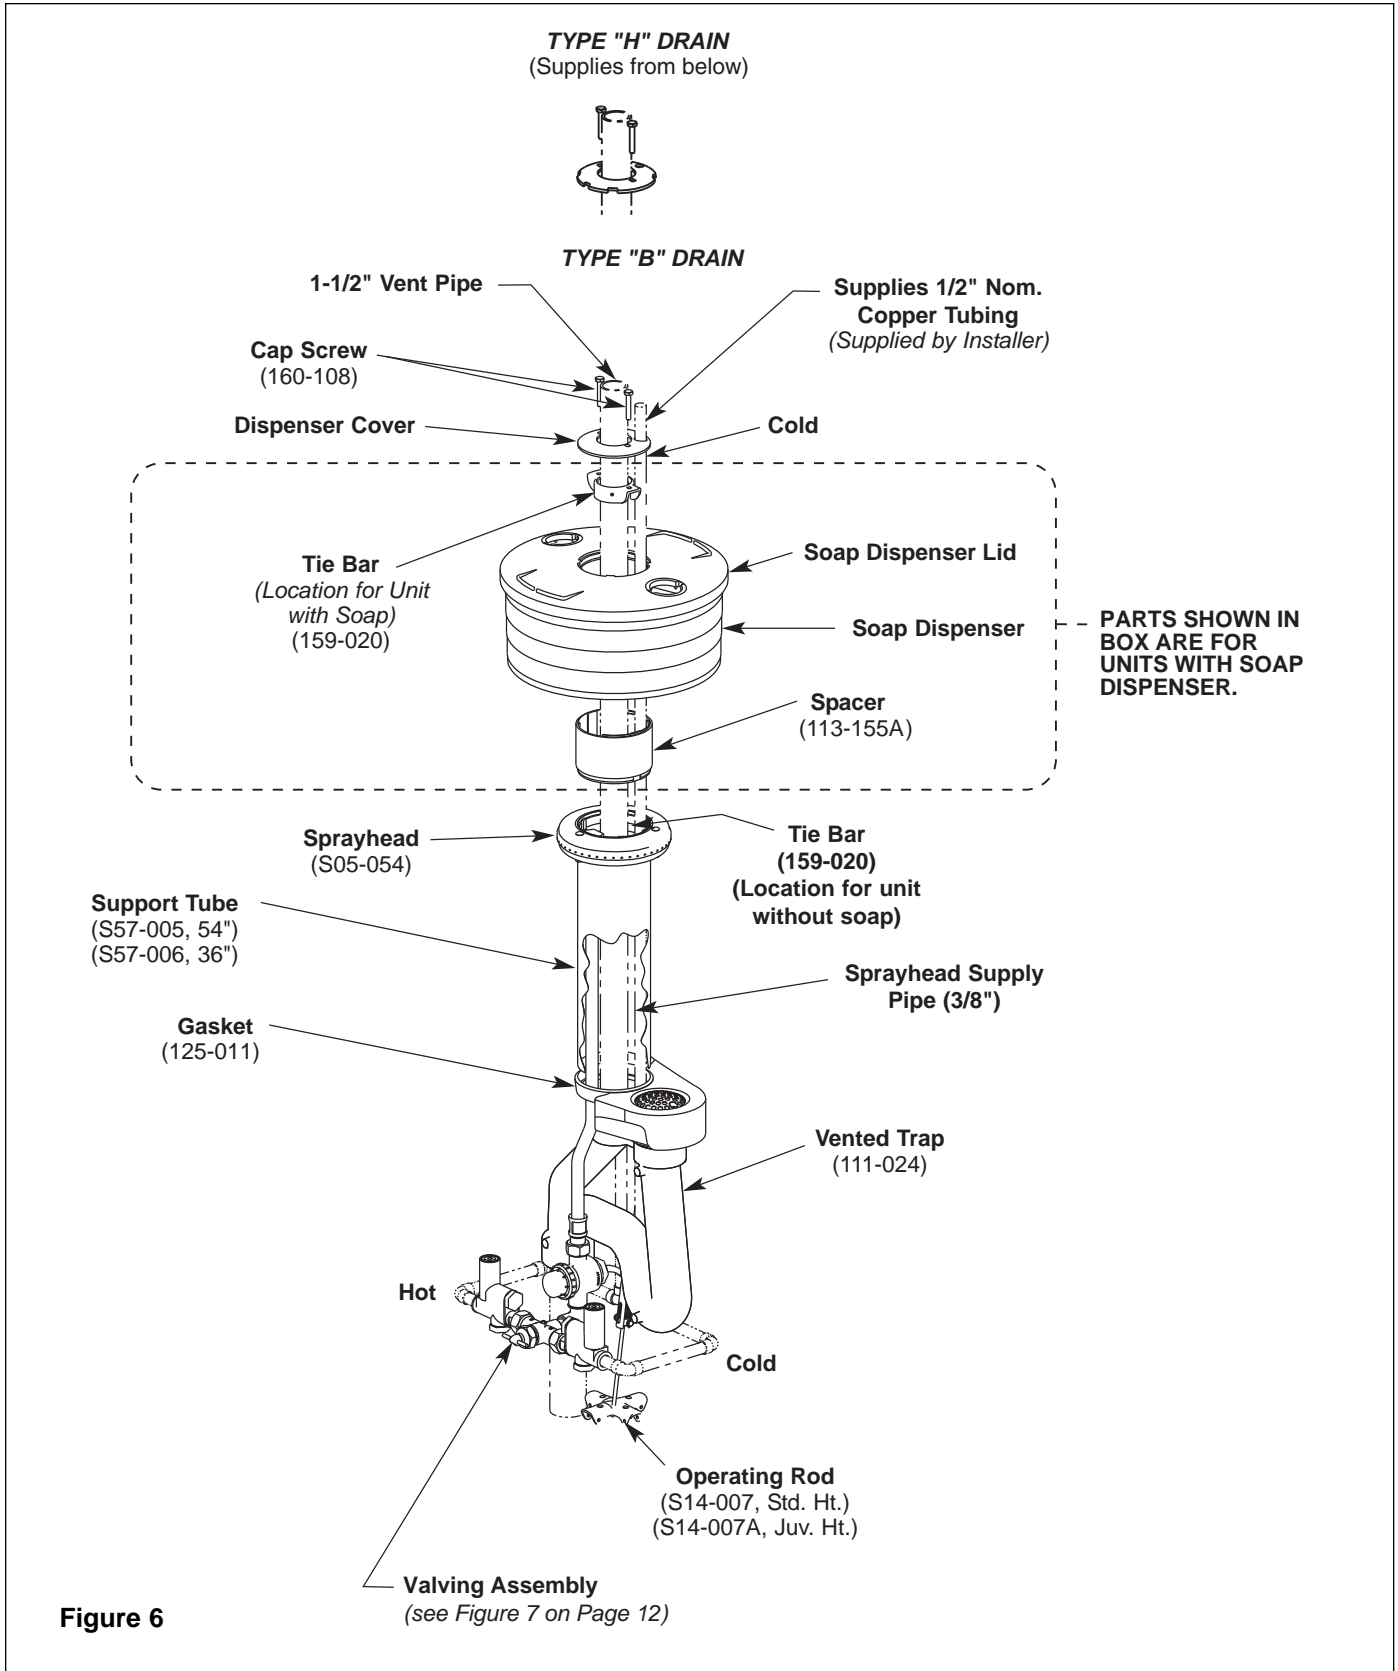

Figure 6
2. Using pipe sealant, connect the supply pipe to the sprayhead and place on top of the support tube as shown in Figure 6 on page 11.